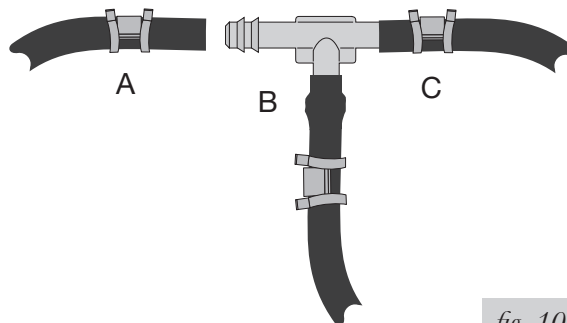

fig. 10
3. Push the air line over one side of the tee until all the barbs are covered. With a pair of pliers, slide the air line clamp forward until it fully covers the barbed section. Repeat entire procedure for other leg of the tee (Fig. 10).
9. Slide a clamp onto the air line and push the air line over the fitting, covering all the barbs. With pliers slide the air line clamp forward until it fully covers the barbed section (Fig. 10).